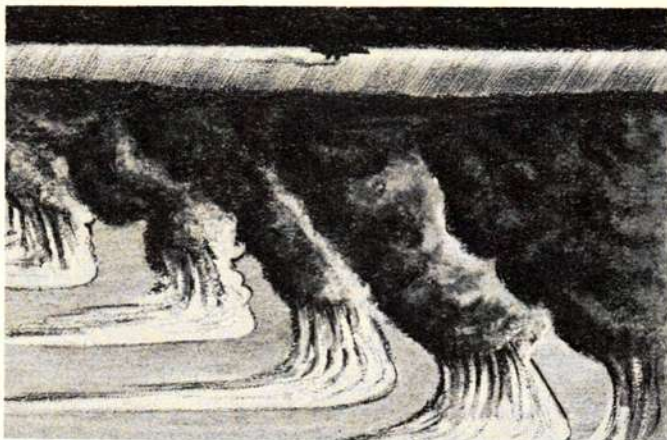
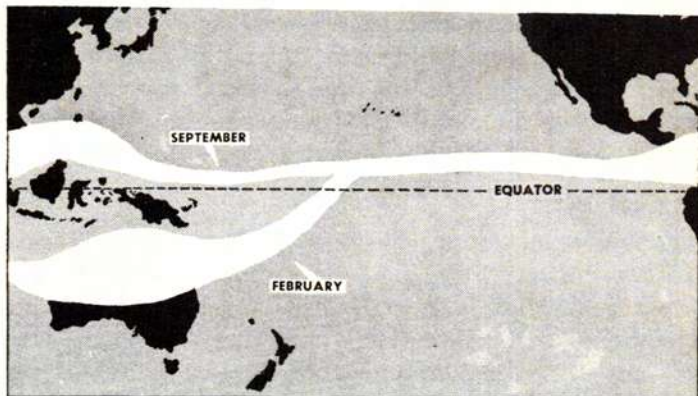
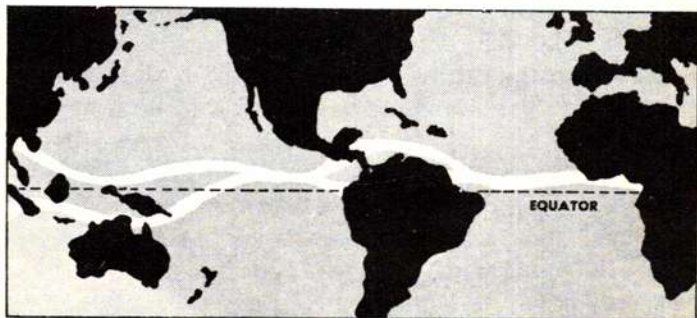

Figure 4-8-1. Cold-front type equatorial front.
Figure 4-8-2. Seasonal changes of the equatorial front in the Pacific.
Figure 4-8-3. Seasonal positions of the equatorial front.
**Movement.** *Seasonal:* In the Atlantic, the equatorial front (fig 4-8-1) is always north of the equator. In the Pacific, the eastern position of the front is also north of the equator. This part of the front does not change appreciably during the year. The western part, however, is always inside the summer hemisphere, lying across northern Australia in February and across the Philippines in late August (fig 4-8-2). Figure 4-8-3 shows the extreme northern position of the equatorial front and the extreme southern position 6 months later.
band may be 400 miles wide. When the equatorial front looks like a cold front (fig 4-8-1) (moderate wind shift), the weather band may be only 25 to 50 miles in width. Since the wind shift across the front varies widely from place to place, the frontal weather band also varies in width and intensity.